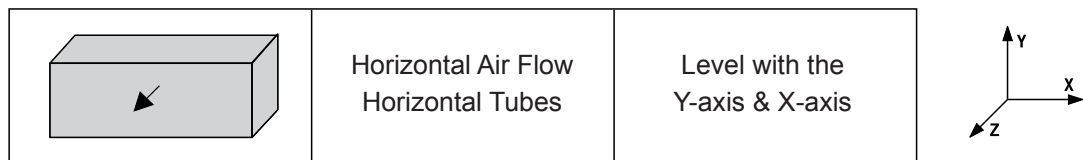

Fig. 17: Leveling of the cooling module
4. The cooling module must be mounted level to ensure proper draining. Level the cooling module for a horizontal airflow with horizontal tubes application. See Fig. 17 below.